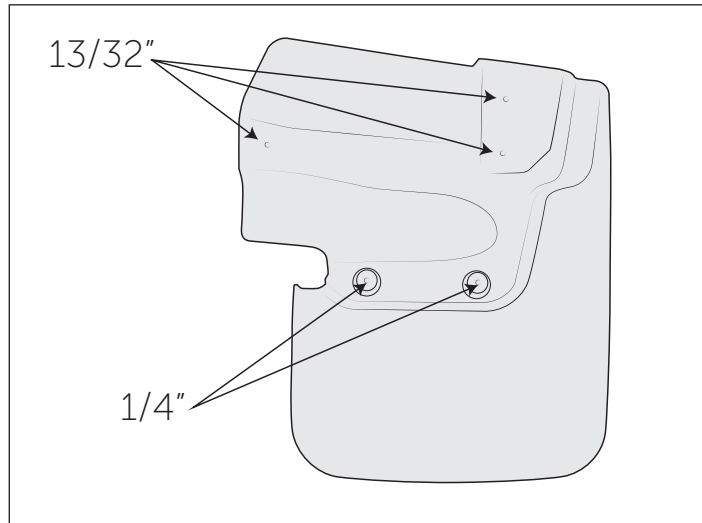

Figure 5
1. Locate the five dimples on each splash guard. Drill pilot holes using a 1/8" drill bit, then finish the upper holes to 13/32" and lower holes to 1/4"(fig. 5).